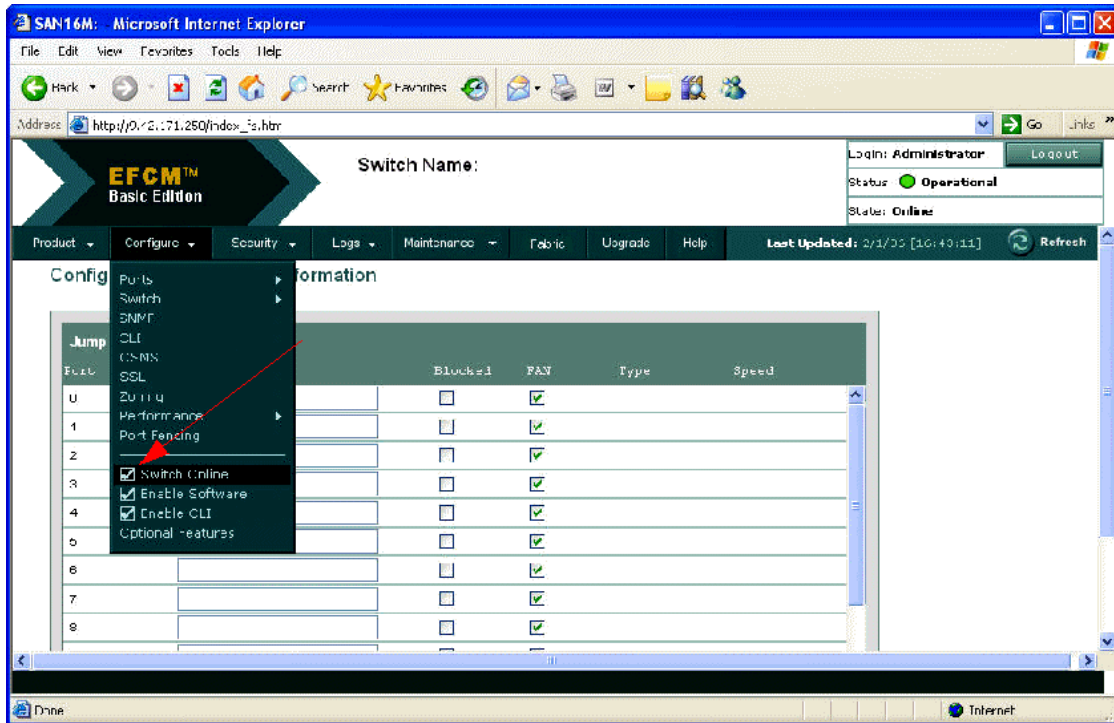

Figure 6-12 SAN16M window
- Set the switch offline. Select **Configure** → **Switch Online**. Uncheck the check box (see Figure 6-12).